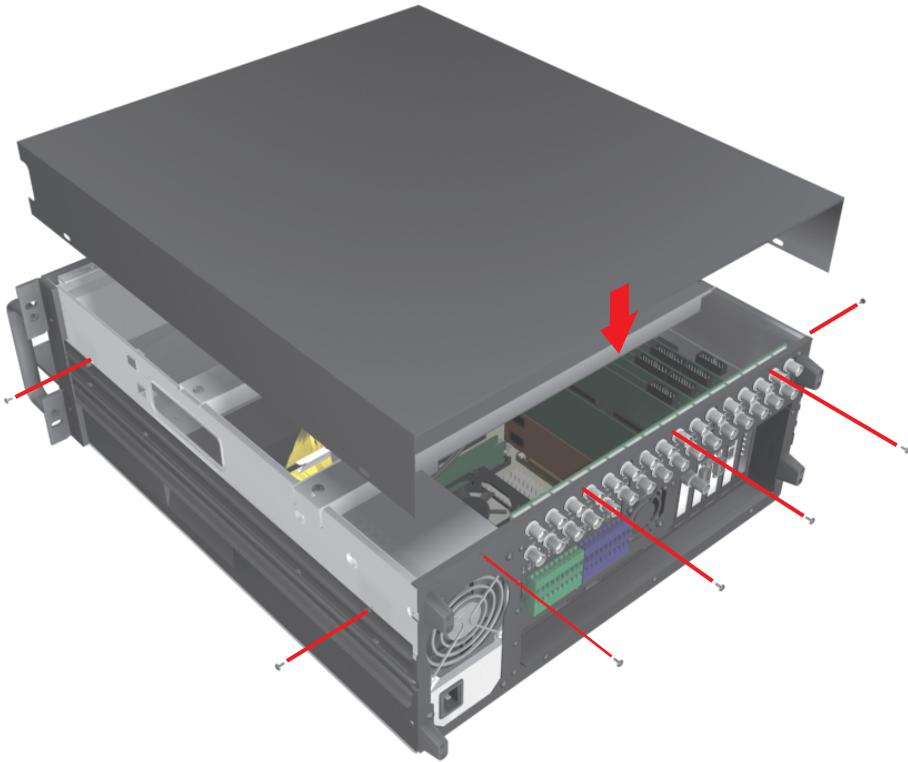

Figure 16. Replacing Chassis Cover
2. Replace the chassis cover using the same screws you removed from the side and rear of the unit. Refer to Figure 16.